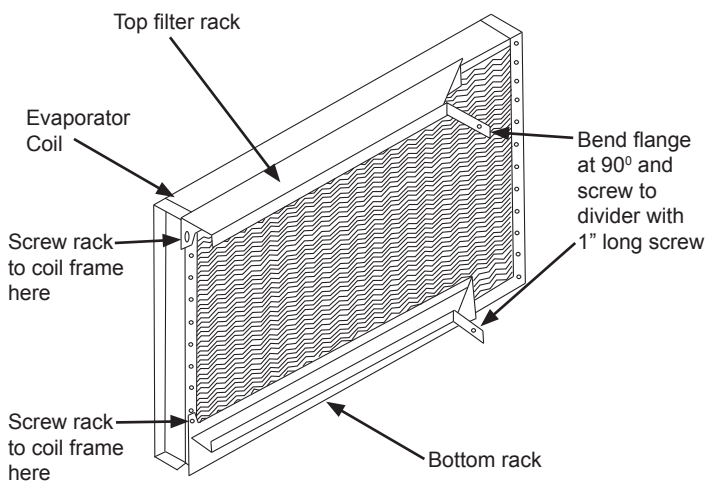

Fig. 1 - Filter Rack
Bend flange by hand at 90 degrees - Fig.1. Screw left side of rack in to 4th hole down on coil frame. Use only 1/2" (12.7mm) long blunt end screws. Make sure the bracket is level and the right side of filter bracket is pushed back against the coil then screw bent flange to unit side panel using 1" long self-drilling screw provided. If using 2" (50.8mm) filter the filter spacer must be removed.
Install the bottom filter rack. Bend flange 90 degrees - Fig.1. Screw left side of rack to the coil frame. Use only 1/2" (12.7mm) long blunt end screws. Make sure the bracket is level and the right side of the filter bracket is pushed back against the coil then screw bent flange to unit side panel using 1" long self drilling screw.
14. Remove the filter access panel and install disposable filters in filter rack. Reinstall the filter access panel. Fig. 1. See Table 2 for filter sizes.